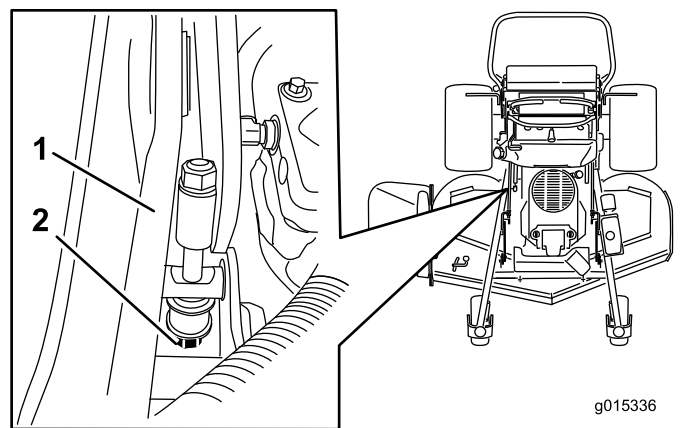

Figure 91
5. If it does not measure correctly, locate the height-of-cut rod on the right side of the machine (Figure 91).
6. Adjust the adjustment bolt until the blade tips match 3 inches (7.6 cm) (Figure 91).